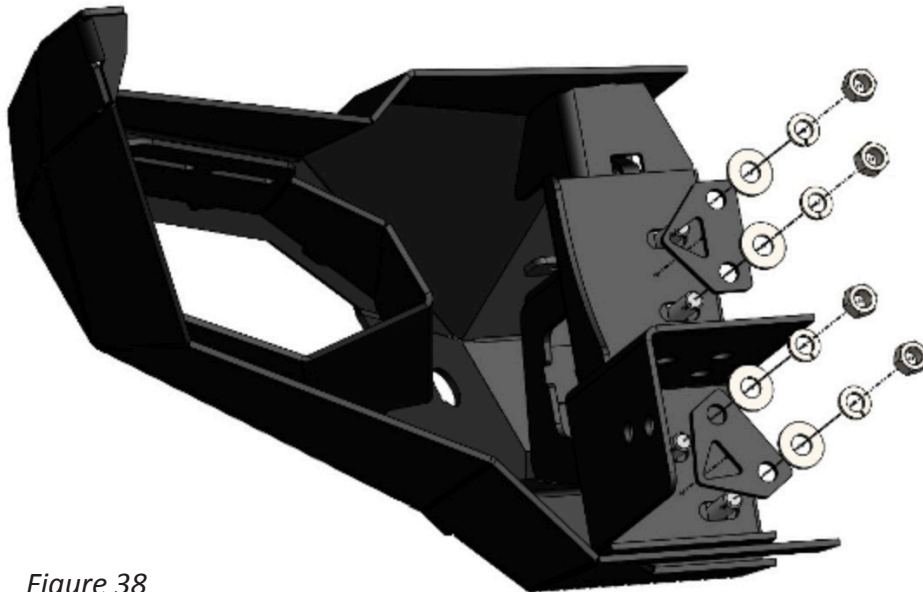

Figure 38
31. Using a 3/4" socket wrench, install the four (4) provided washer plates (Part#: 23046), 1/2" flat washers, lock washers, and hex nuts onto the previously installed bolt strips. Figure 38